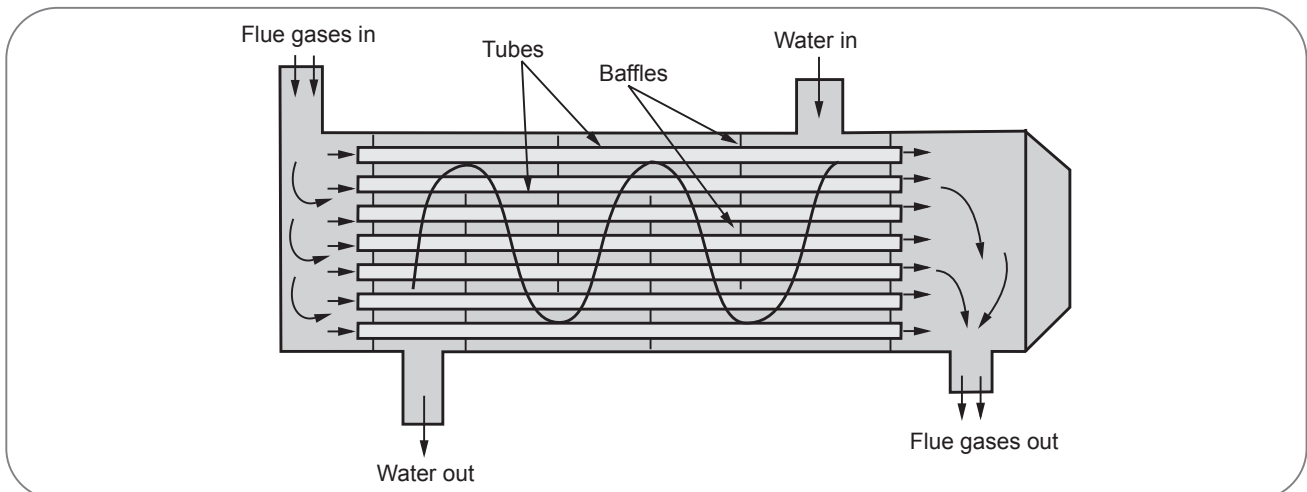

Fig. 2.14 : Economizer
- The Fig. 2.14 diagram shows economizer.